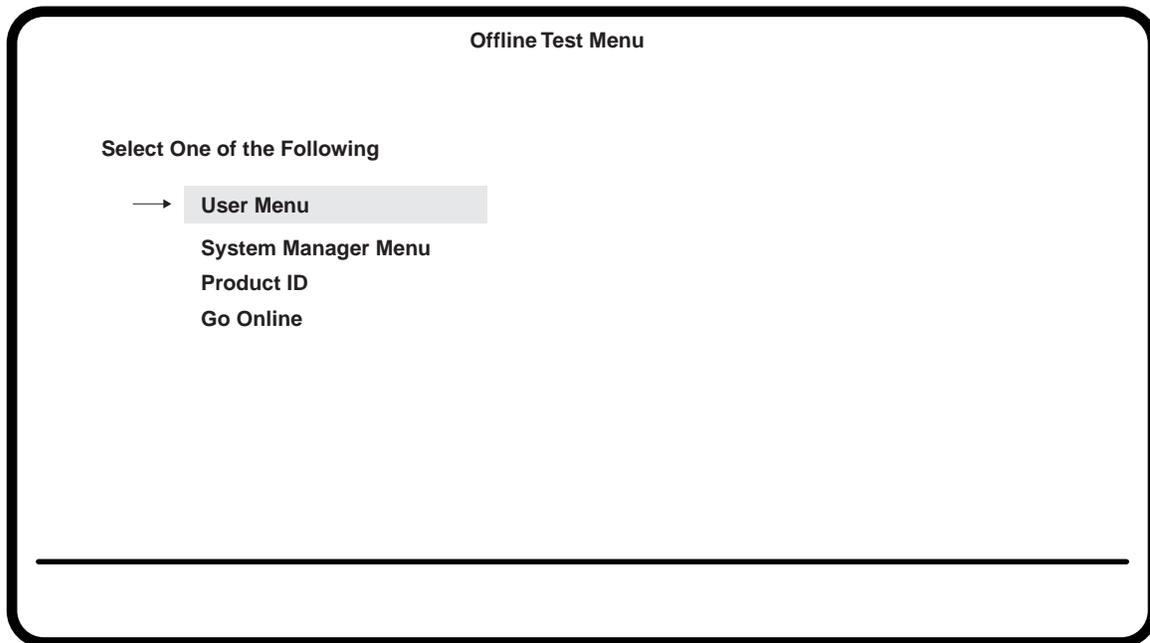

Figure 2-5. Offline Test Menu
- 3) Hold the key down until a screen resembling the one in Figure 2-5 appears. If the screen remains blank, the Contrast and Brightness controls may need adjusting.
To enter Offline Setup mode, hold down any key while you turn the display station on. The Offline Test menu is displayed (Figure 2-5 on Page 2-7).
To enter setup mode when the display station is online, press and hold down at the same time the Alt key, the Caps Lock key, and the Test key. The Offline Test menu is displayed (Figure 2-5 on Page 2-7).
To leave the Offline Cursor menu, use the Left and Right Arrow keys to display another offline setup menu or press the Reset key to exit from Offline Setup mode and return to the Offline Test menu (Figure 2-5 on Page 2-7).